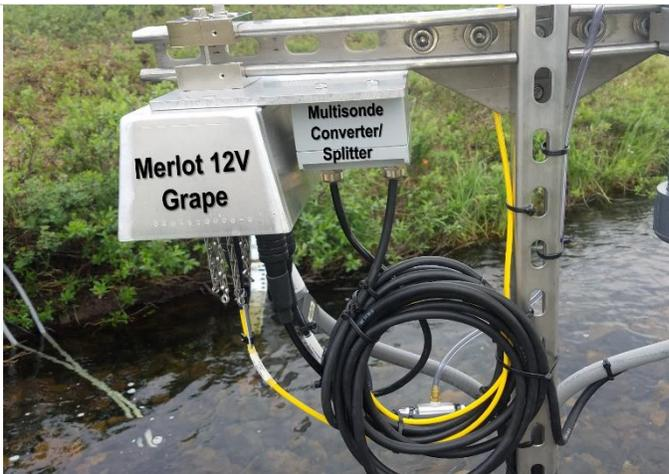

Figure 126. Multisonde Merlot Grape in Grape shield with converter/splitter box
**STEP 6** | If not already complete, remove the other sensor connections from the 12V Merlot Grape and remove the Grape for Sensor Refresh (**Figure 126**). The converter/splitter box remains on the anchor unless removing the sensor for winterization. If moving for winterization, remove the entire assembly that mounts to the Unistrut.